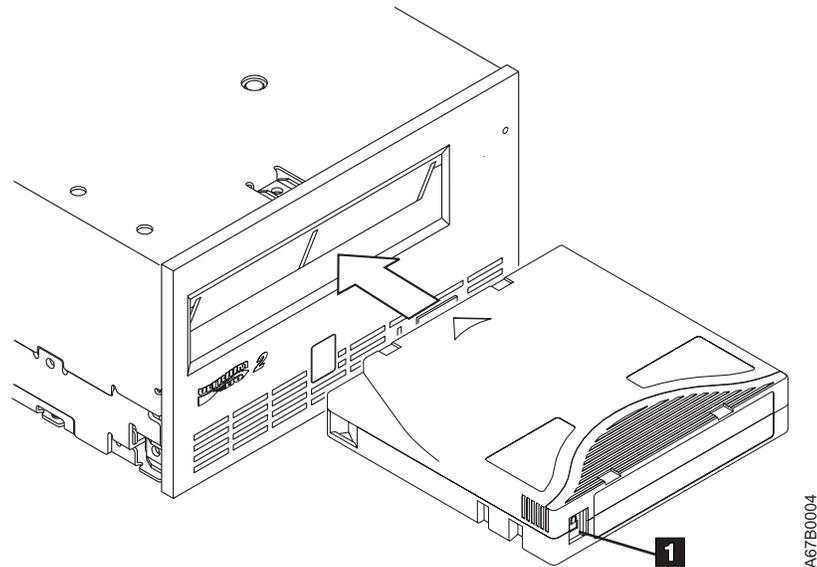

Figure 17. Inserting a cartridge into the LTO-2
3. Grasp the cartridge so that the write-protect switch faces you (see **1** in Figure 17).
Clean the drive head whenever **C** displays on the single-character display and the status light is flashing amber. To clean the head, insert the cleaning cartridge into the tape load compartment (see Figure 17 on page 34). The drive performs the cleaning automatically. When the cleaning is finished, the drive ejects the cartridge. Most universal cleaning cartridges are generally valid for 50 cleanings.